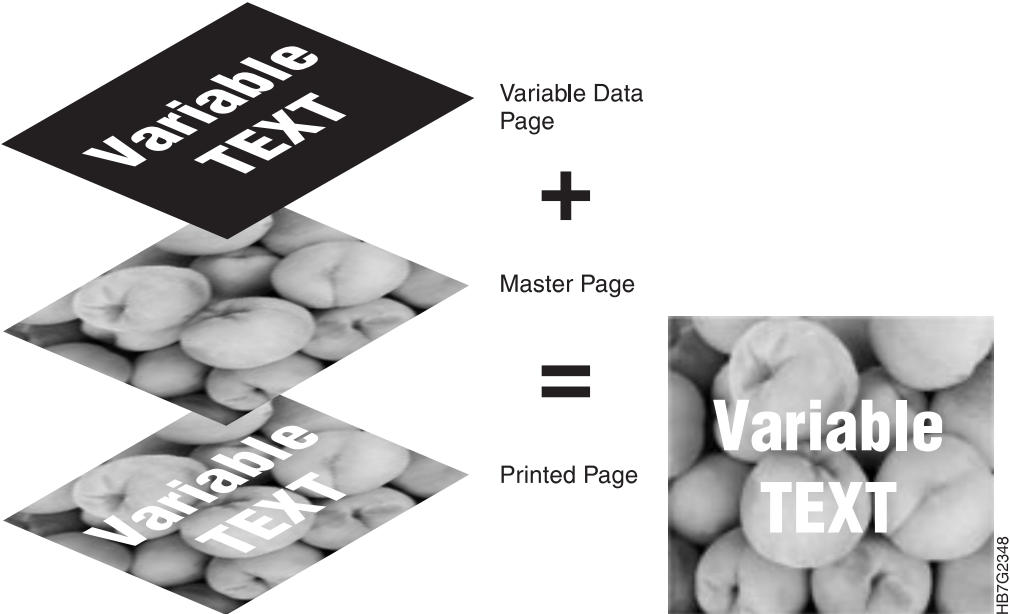

Figure 347. Sample "Reverse Out" Job Type (VDF3)
**VDF3** Use this method when printing white variable data text on a master page with a non-white background. The variable data pages should have a black background and white text. If other colors are used, the resulting page will not print with the colors you desire. See Figure 347.